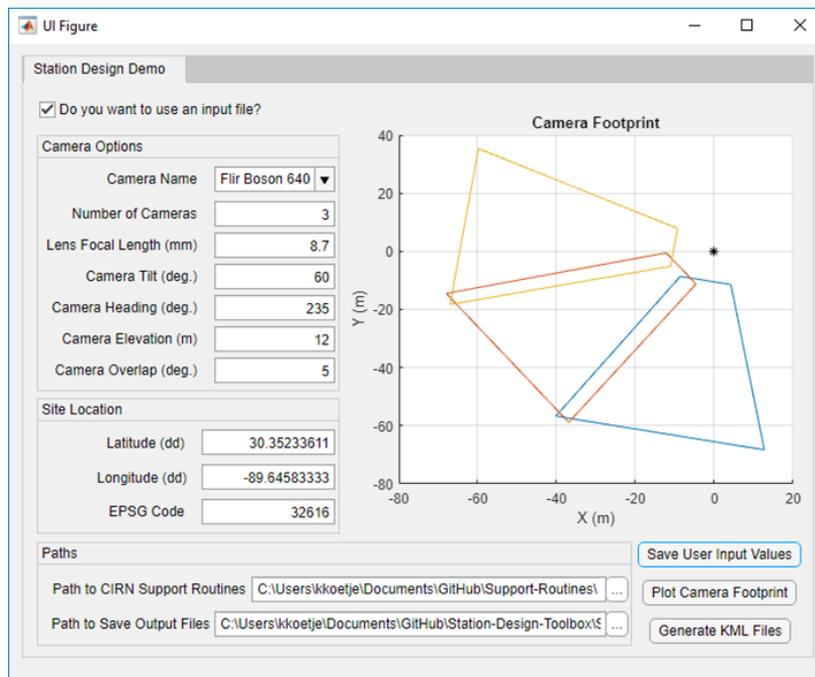

Figure 3: The Station Design Toolbox GUI, populated with user inputs from an input file
- Footprint.png – This figure shows a polygon representing the boundaries of the camera field-of-view (referred to as footprint) for each camera in the array, similar to that shown in the figure axis on the GUI window (Figure 3). The camera is used as the origin of the coordinate system and is represented by an asterisk.